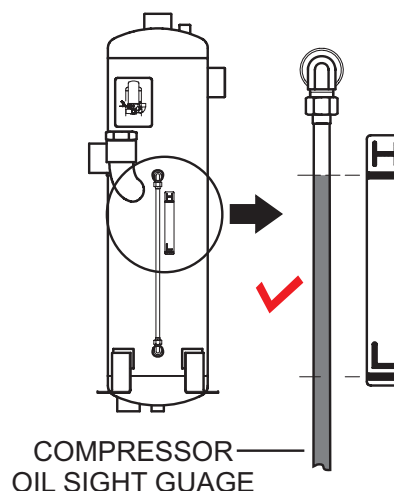

Figure 65. Compressor Oil Sight Gauge
6. Run the engine and verify that the compressor oil level is between the **H** and **L** markings on the compressor oil level gauge (Figure 65).